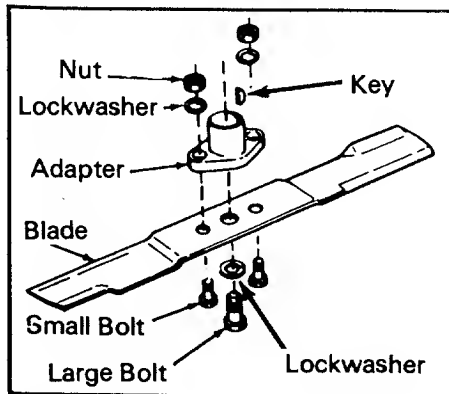

FIGURE 32.
1. Remove the large bolt and lockwasher holding the blade adapter to the blade spindle. (See figure 32.)